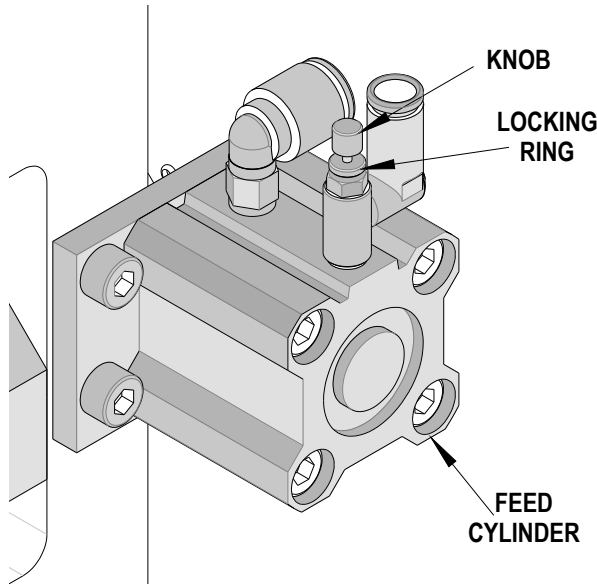

Figure 2-10
Terminal feed speed is controlled by the flow control valve on the feed cylinder. Loosen the locking ring, then turn the adjustment knob clockwise (CW) to reduce the feed speed or counterclockwise (CCW) to increase the feed speed. See Figure 2-10.